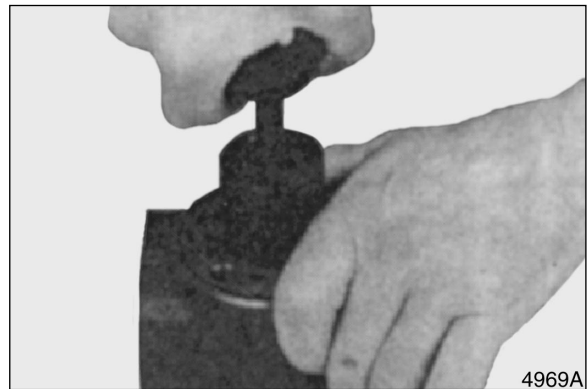

Figure 41
11. Use assembly tool to install O-ring and backup ring into bore. See Figure 41.